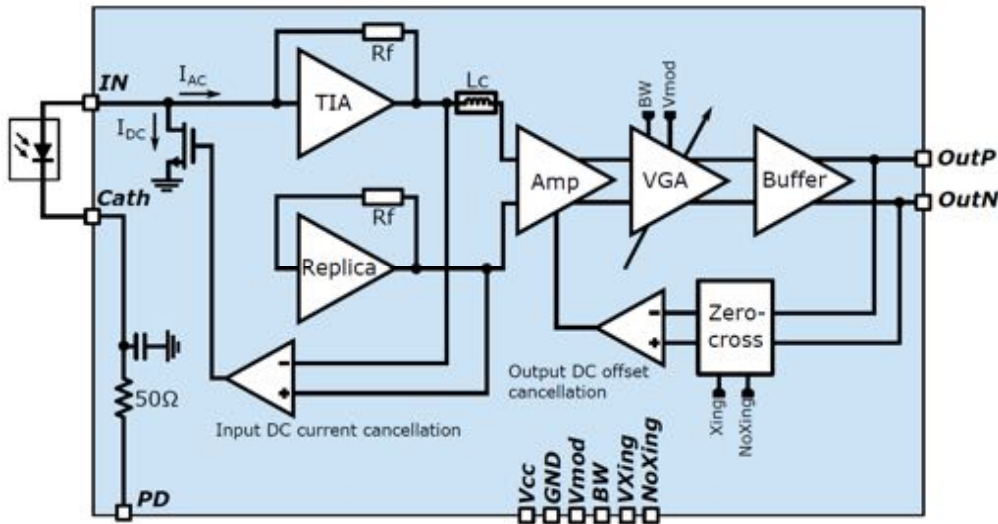

Figure 1. Simplified block diagram of the IC
The block diagram of the T56-250 is shown in Figure 1. It consists of four stages: an input transimpedance stage (TIA), a post-amplifier a variable gain amplifier (VGA) and a 50Ω output buffer. Series peaking with L_c between the first and second stage is used to increase the bandwidth. The IC has single-ended input (IN) and differential output (OutP OutN). A replica TIA provides the post-amplifier with DC-balanced inputs. A bias path for the photodiode is provided on-chip through the pin (PD) and cathode (Cath) that includes a low pass filter in order to damp eventual oscillations. The IC is operated from a single 3.3 V supply (VCC and GND) and is equipped with various analog control pins (Vmod, BW, NoXing, Vxing). Vmod defines the gain of the VGA. BW controls the frequency domain peaking. NoXing and VXing enable and control, respectively, the zero-crossing of the output signal.